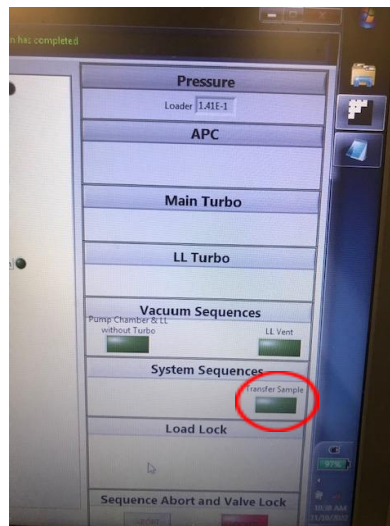

Figure 5: Transfer Sample Button
9.5.1. Under the "Vacuum System" tab, select "Transfer Sample". **Figure 5.**